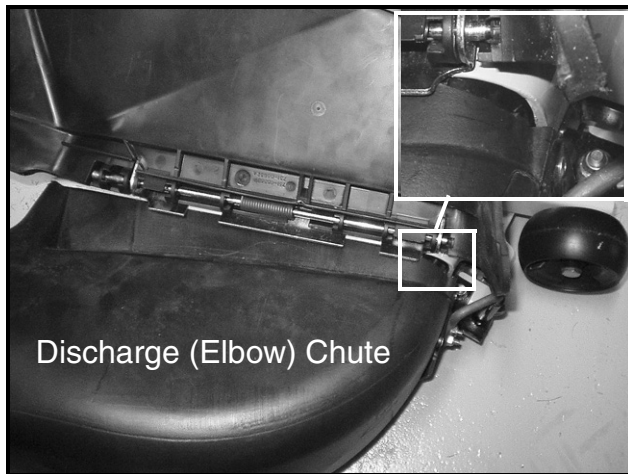

**FIGURE 3**
7. Insert the Front Discharge Chute Plate, Item 1, into the deck opening. Ensure that the top of the front discharge chute plate is positioned under the flat discharge chute plate. See Figure 3.